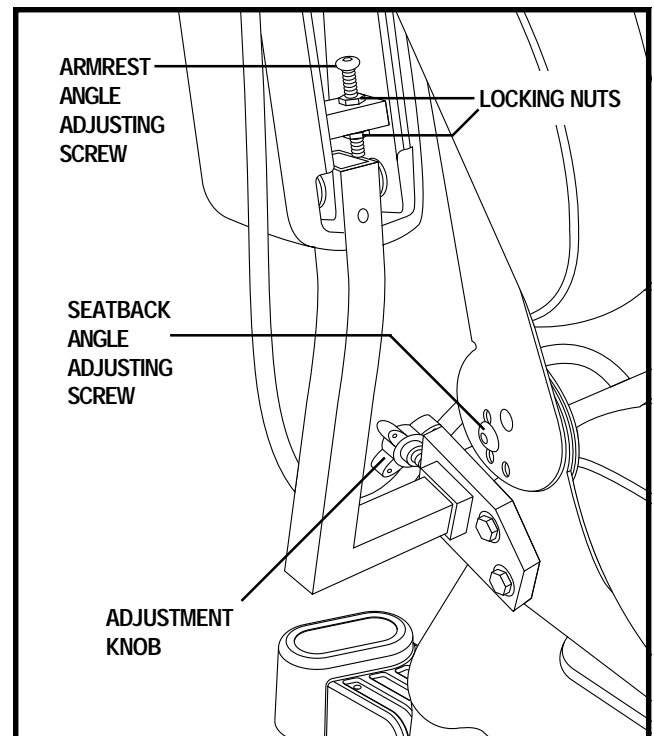

Figure 17. Seatback and Armrest Adjustments
1. Remove the adjusting screws from both seat hinges. See figure 17.
1. Locate the two adjustment knobs on the armrest receiver bracket. See figure 17.
2. Loosen the locking nuts. See figure 17.